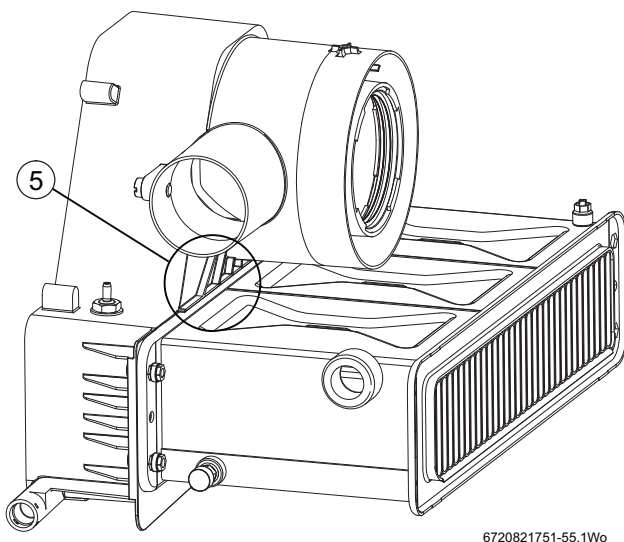

Fig. 55 Locate lip of flue manifold
- ▶ With lower edge of the flue manifold in place, rotate the manifold up to the heat exchanger ensuring that the lip [5] on the flue manifold is on top of the heat exchanger as shown in figure 55.